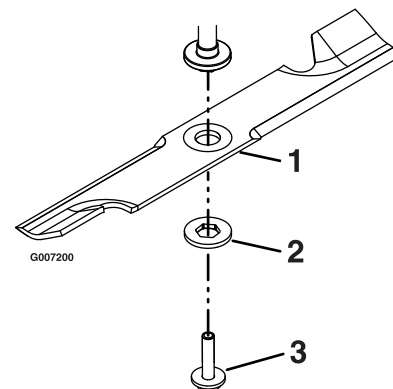

Figure 34
(Figure 34). Refer to **Removing the Blades and Installing the Blades**.
Hold the blade end using a rag or thickly-padded glove (or place a wrench on the top sheave nut). Remove the blade bolt and washer assembly, washer, and blade from the spindle shaft (Figure 34).
1. Install the blade onto the spindle shaft (Figure 34).